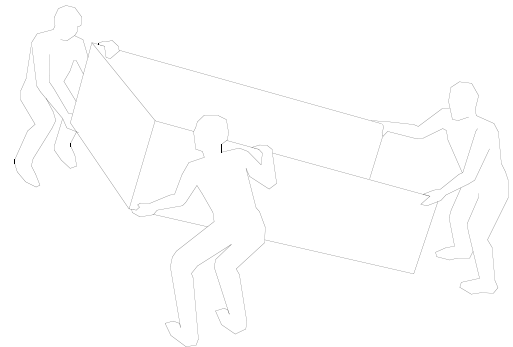

Figure 3-5
7. Use two or more people to lift PD 6500 to a vertical position and move to desired location. (See Figure 3-5.)